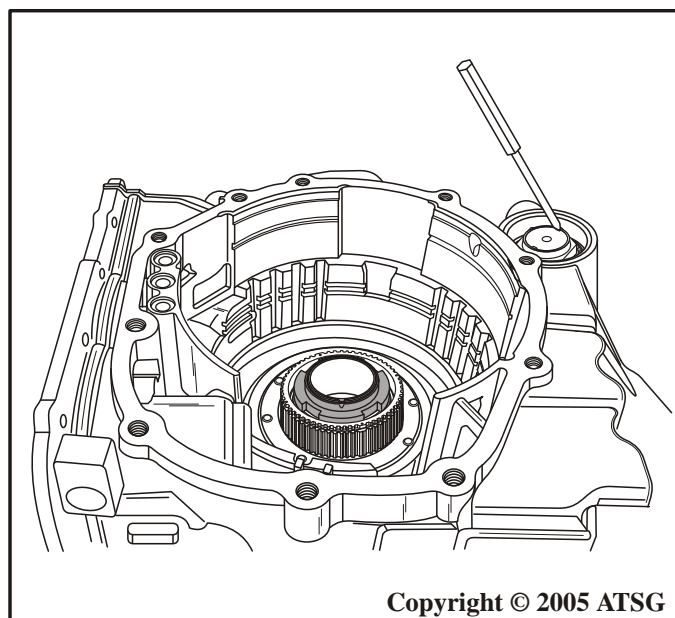

Figure 54
70. Using a suitable punch, straighten the locking tabs of the pinion shaft lock nut, as shown in Figure 54.